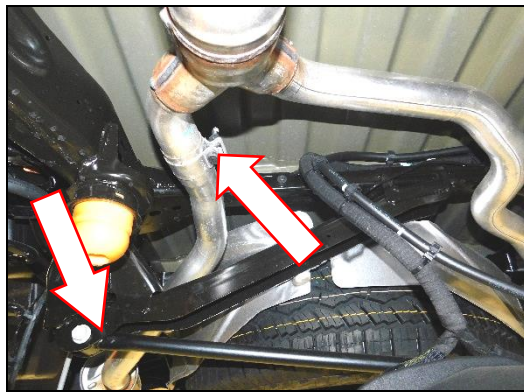

Figure 2
4. Loosen (x1) OE band clamp on the right side tailpipe assembly and slide out (x1) hanger from the OE rubber isolator mount. Remove the right side tailpipe assembly from the vehicle. (**Figure 2**)